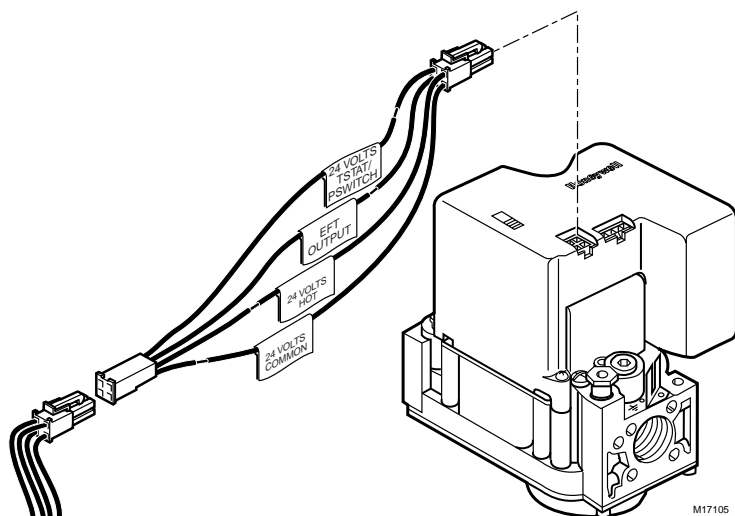

Fig. 1. Harness attaches between SmartValve and appliance wiring.
5. Connect the test harness between the appliance wiring and the SmartValve, as shown in Fig.1. Make sure the keyed connectors lock into place.